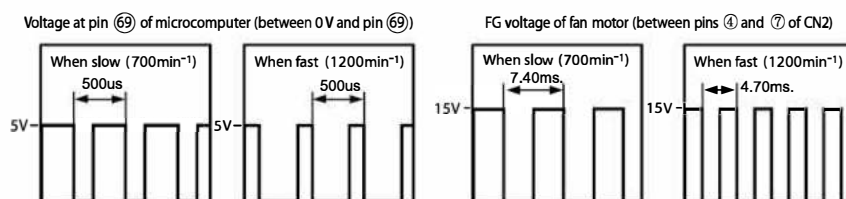

Fig. 3-2
- * The VS receives a command voltage from the microcomputer. The VS terminal undergoes an analog voltage that matches the Lo level time ratio of the pulse signal from pin ⑥9 of the microcomputer. (See Fig. 3-2.)